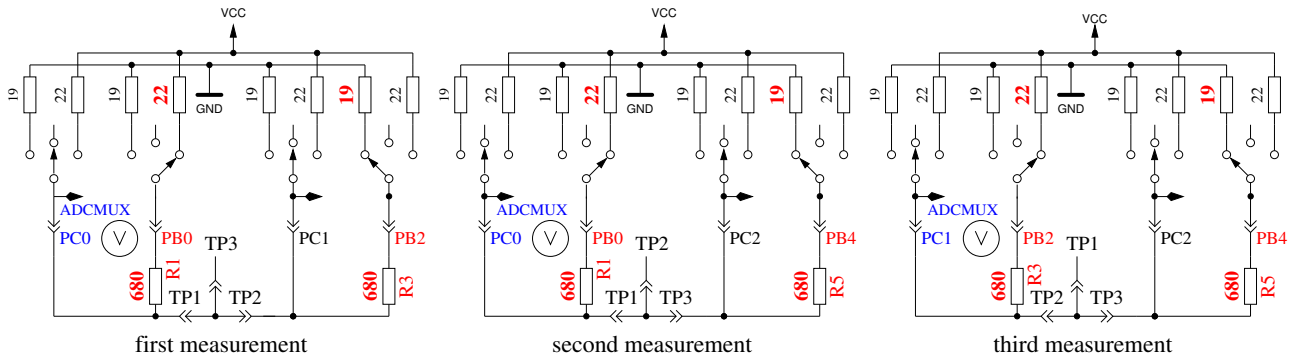

Figure 5.28: Comparison of 680Ω resistors
2. **Comparing of the 680Ω resistors.** In row 1 the cryptic text “+RL- 12 13 23” is shown. Meaning of this is as follows: The RL is the short form of Resistor Low meaning the 680Ω resistors. The 12 stand for: resistor at pin 1 is connected to VCC (+) and resistor at pin 2 is connected to GND (-). The result of this measurement is displayed in row 2 at the first place. In row 1 follows now a “13” which means, that the first connection of measurement 1 is still connected with 680Ω to VCC but that the resistor of pin 3 is connected to GND. The result is displayed in the middle place of row 2. The last measurement of this test “23.” means that now the resistor at pin 2 is connected to VCC (+) and the resistor of pin 3 is connected to GND. The result of measurement is displayed at the last place of LCR row 2. Please remember, that the resolution of the ADC is about 4.88mV! The measurement situation is also shown in figure 5.28. All these combinations with respect to the internal resistance of the pins should result to: